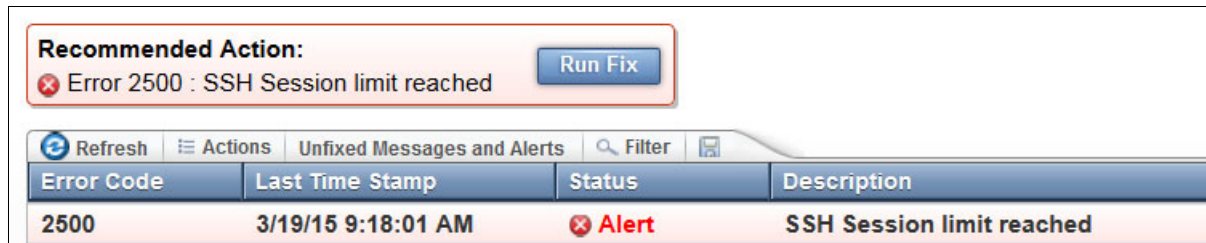

Figure 7-16 Error 2500: SSH Session limit reached
1. Double-click the status alert to see the event panel (Figure 7-16).